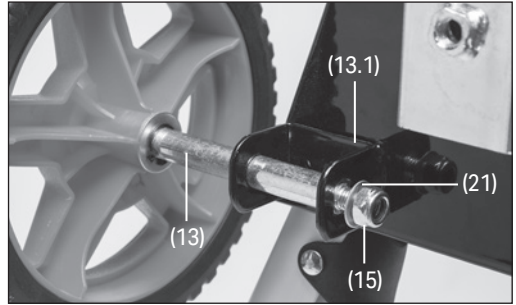

Fig. 5
6.3 Assemble Wheels (Fig.5 – Fig.7)